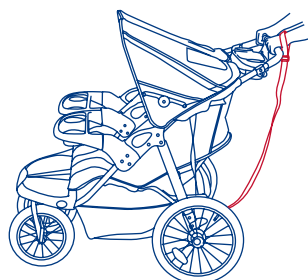
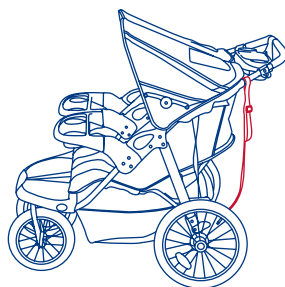

Fig. 22
Fig. 23
- **SAFETY WRIST STRAP:** Always connect the safety strap to either wrist when jogging. This strap will keep the stroller from rolling away in the event that you trip while running. (Fig. 22) The safety strap must remain connected to the rear lower frame cross member at all times. This location is intended to prevent the stroller being tipped backward in the event that you do fall to the ground. The safety strap includes a Velcro attachment for storage, on the left side of the stroller, when not in use. (Fig. 23)